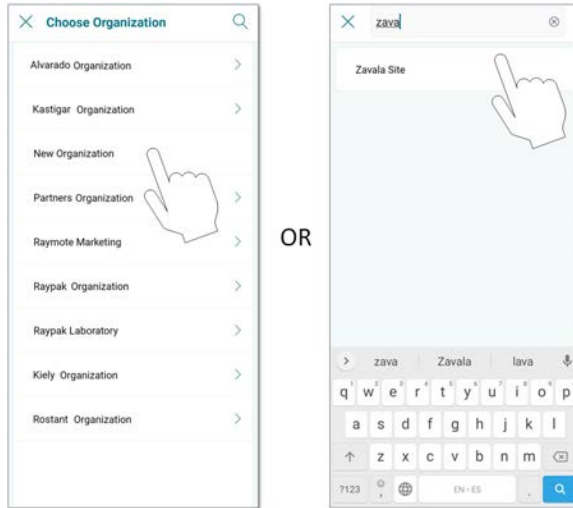

Figure 78. Choose Organization
4. "Choose organization" screen will be displayed and it will show all the available organizations. Navigate the sub Organization list or use the search tool to locate desired organization. See **Figure 78**.